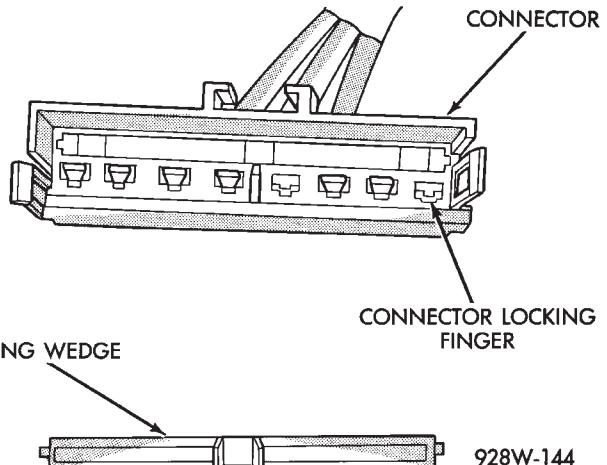

Fig. 12 Connector Locking Finger and Locking Wedge
- (4) Position the connector locking finger away from the terminal while pulling on the wire to remove the terminal from the connector (Fig. 12).
- (5) Reset the terminal locking tang, if it has one.
- (6) Insert the removed wire in the same cavity on the repair connector.
(7) Repeat steps four thru six for each wire in the connector, being sure that all wires are inserted into the proper cavities. For additional connector pin out identification refer to the wiring diagrams.
- (8) Insert the connector locking wedge into the repaired connector.
- (9) Connect connector to its mating half.
- (10) Connect battery and test all affected systems.
(4) Position the connector locking finger away from the terminal while pulling on the wire to remove the terminal from the connector (Fig. 12).
(5) Cut the wire 6 inches from the back of the connector.
(6) Remove 1 inch of insulation from the wire on the harness side.
(7) Select a wire from the terminal repair assembly that best matches the color wire being repaired.
(8) Cut the repair wire to the proper length and remove 1 inch of insulation.
(9) Place a piece of heat shrink tubing over one of side of the wire. Make sure the tubing will be long enough to cover and seal the entire repair area.